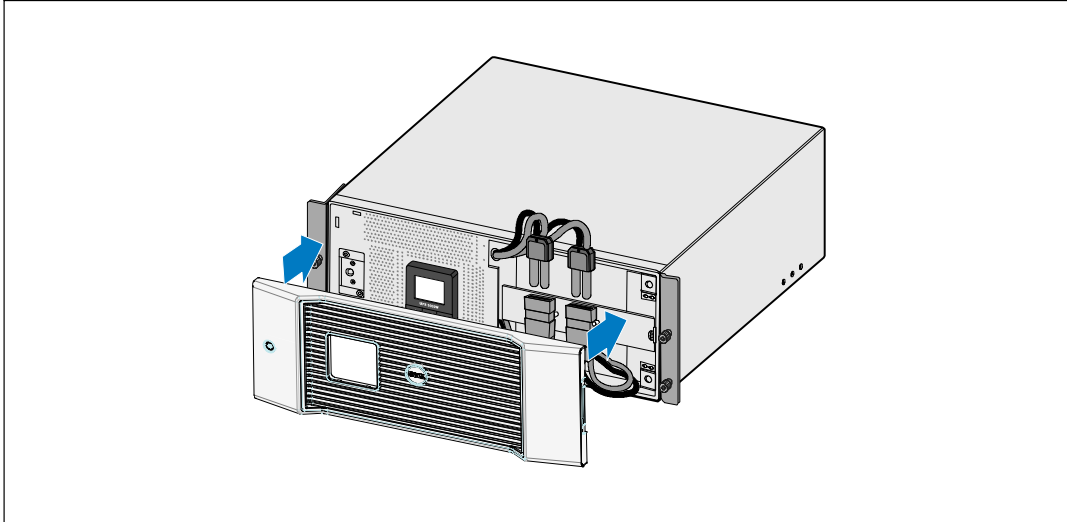

Figure 27. Replacing the UPS Front Cover
- 5 Replace the UPS front cover (see Figure 27).